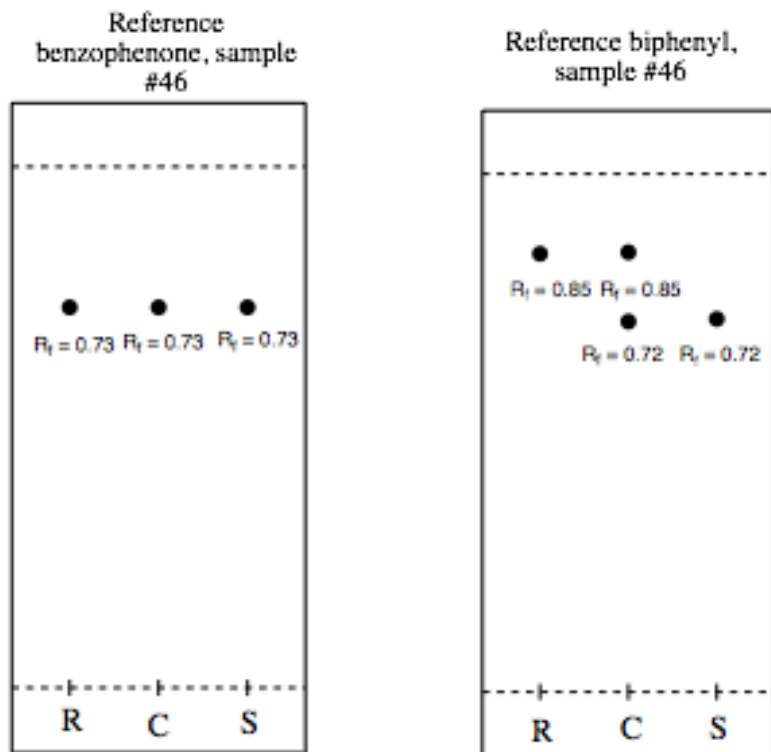

Figure 1: EtOAc hexane 2:8
- This is shown when comparing the TLC plates using ethyl acetate: hexane 2:8 in Figure 1 to Figure 2 where the mobile phase used is ethyl acetate. The final displacement of the dots is shown to be greater in figure 2 compared to figure 1.
- In figure 1 benzophenone and biphenyl are used as reference solutions to determine what the unknown substance is. If the spots are in line with each other then the unknown substance is likely the reference solution, as seen on the benzophenone TLC plate.
- As seen in Figure 3, when sample I was being tested with 3 compounds, the Rf values of the sample were lower than in parts A and B (fig.1 and fig.2). Since there was a lower Rf value, the compound is more polar.
- As seen in Figure 1 and Figure 2, there is a difference in the Rf values between each TLC plate. Benzophenone had a lower Rf value meaning it was the most polar of the two substances compared.
- This can be seen when comparing the Rf values of the reference dots from figure 1 and figure 2 where the mobile phases have been changed. In figure 1, the Rf value of benzophenone in EtOAc hexane is 0.73, and when used as a reference solution with the mobile phase of EtOAc, the Rf value is shown to have increased to 0.89, demonstrating that the spot moves faster in the EtOAc due to the greater quantity of hydrogen bonds being formed between the reference and more polar mobile phase. This is also shown when comparing the Rf values of the biphenyl reference spot from figure 1 to figure 2.
- This also may have been a source of error as both figure 1 and figure 2 did not contain reference dots of 0.5-0.6.